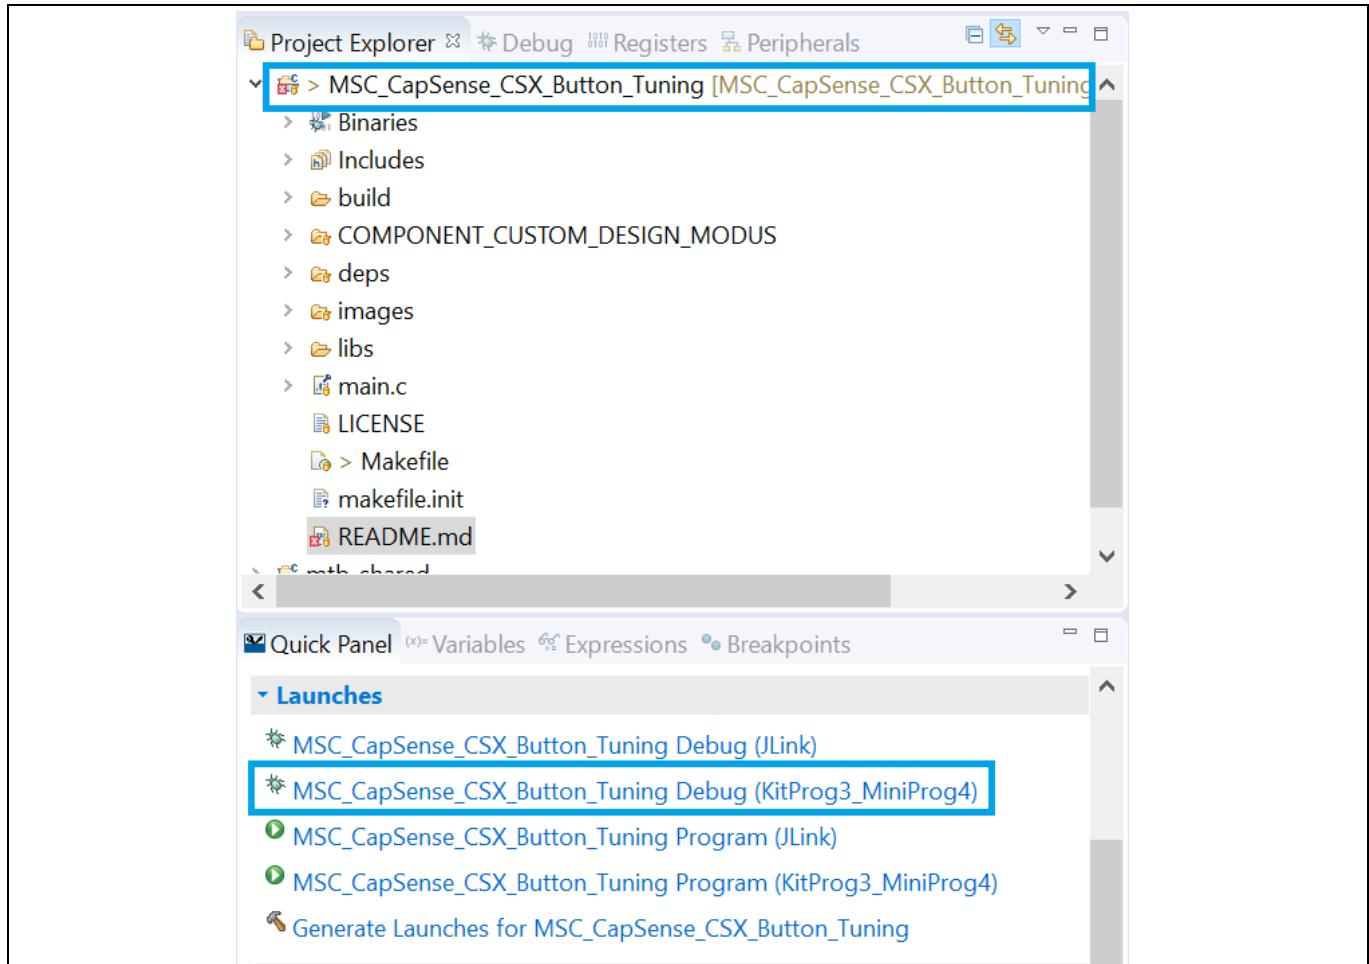

Figure 12 Debug the code example
4. ModusToolbox™ has an integrated debugger. To debug a PSoC™ 4100S Max MCU application, in the Project Explorer, select <App_Name> project. In the Quick Panel, scroll to the Launches section and click the <App_Name> Debug (KitProg3_MiniProg4) configuration as shown in **Figure 12**. For a detailed explanation on how to debug using ModusToolbox™, see KBA224621.